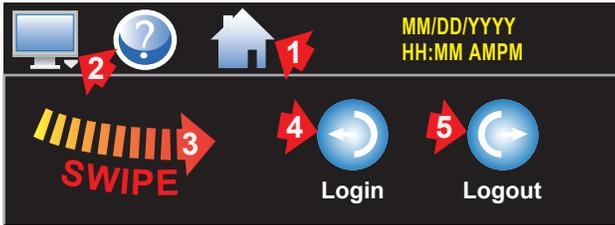

Figure 14. Login Icon
1. LOG ON. Touch: (1)Home (2)Monitor (3)swipe left-to-right, touch (4)Login (Figure 14).
3. LOG OFF. Touch: (1)Home (2)Monitor (3)swipe left-to-right, touch (5)Log Off. A pop-up will ask if you want to log off. Select YES to log off or NO to abort (see Figure 14).